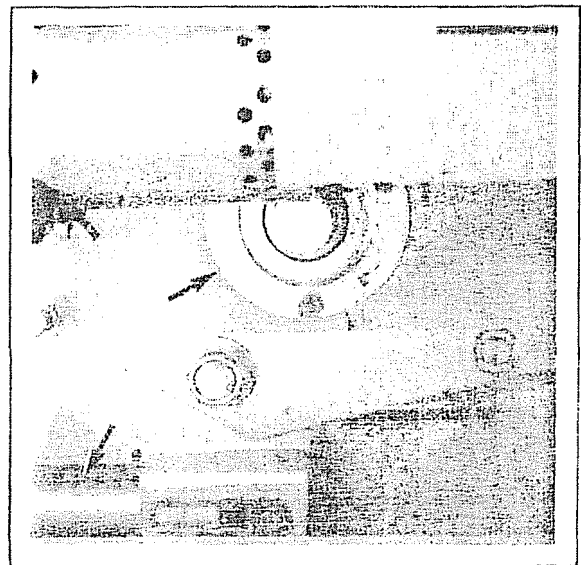

Figure 25
8. Remove the cotter pin from the shock absorber axle, remove the axle from the rear, and drop the shock absorber down out of the way. Note the position of the spacers. See Figure 25.